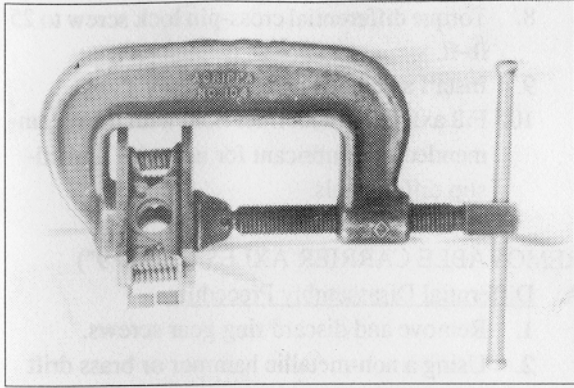
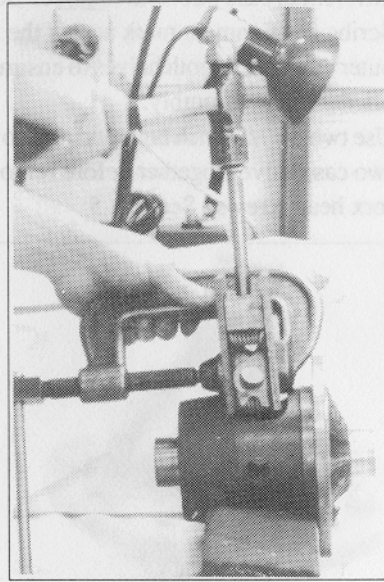

Figure 3 – Using a "C" Clamp
Figure 4 – Striking the Striking Block
3. Install the spring pack as a compressed unit. This can be done by using two (2) steel plates, a “C” clamp, and a striking block. See Fig. 3.
4. Place the differential cross-pin in the case only far enough to go into one (1) pinion gear. This will keep the pinion bores aligned with the case bore during spring pack installation.
5. Position the compressed spring pack fixture against the two (2) side gears through the installation window. Carefully drive the spring pack out of the fixture into the differential by striking the striking block. See Fig. 4. NOTE: Do not strike the spring block directly as this may damage the spring retaining plates.